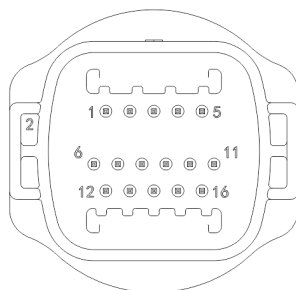

Figure 6.8 Communication port definition diagram
The COM port uses RS485, which can conduct single-machine communication or multi-machine (32 pcs) parallel long distance (500 meters), high speed (port rate 38400) communication. Communication line is recommended to be twisted pair in RS485. The communication line can be connected to pin 3 / 4 and the shielding layer can be connected to pin 1; when multiple machines are in parallel, two RS485-1 connections shall be used at the same time, and the shielding layer can be connected to pin 1 / 2 respectively, as shown in Figure 6.8.
- III. Wiring according to the definition of Figure 6.8 RS485 communication interface.
- 2> As shown in Figure 6-8, insert USB to WIFI module into the USB interface, when USB to WIFI module LED lights on.